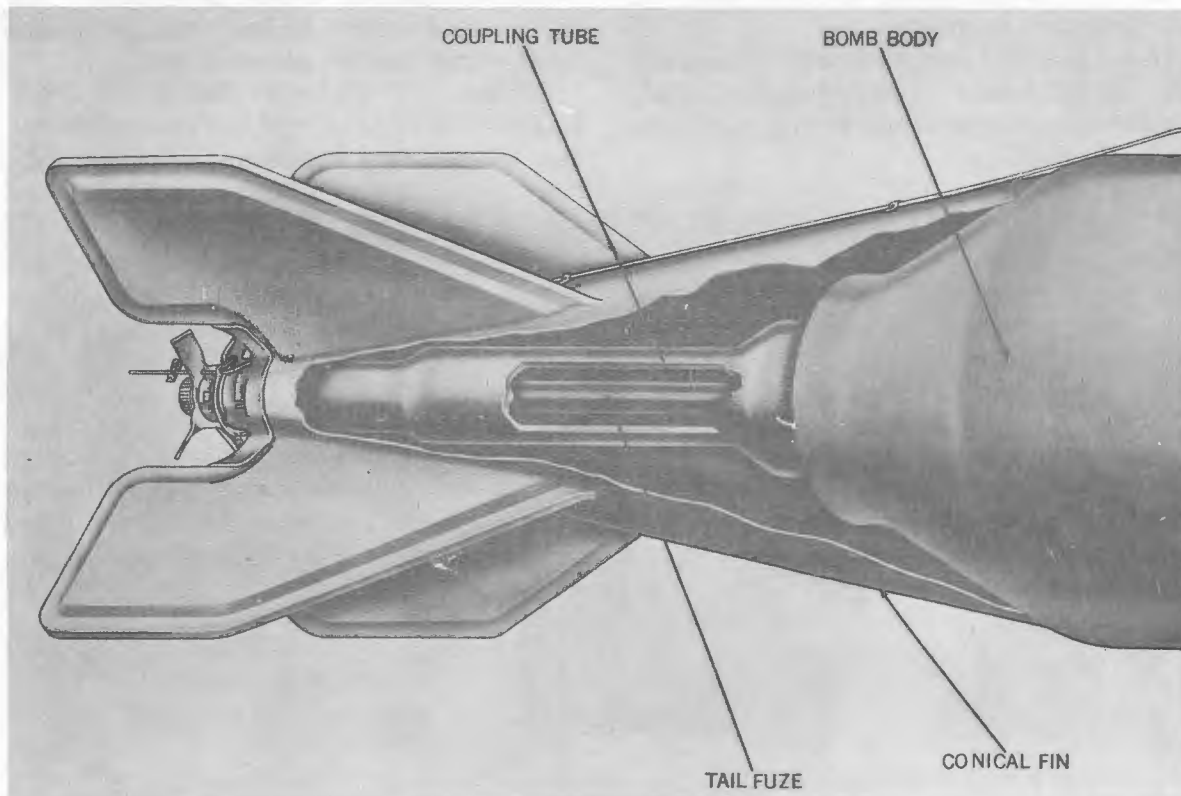

Figure 1-8.—Typical Conical Fin Assembly.
**CONICAL FIN ASSEMBLY,** figure 1-8. Conical fins are designed for use on cylindrical-case GP and frag bombs to provide for bet-